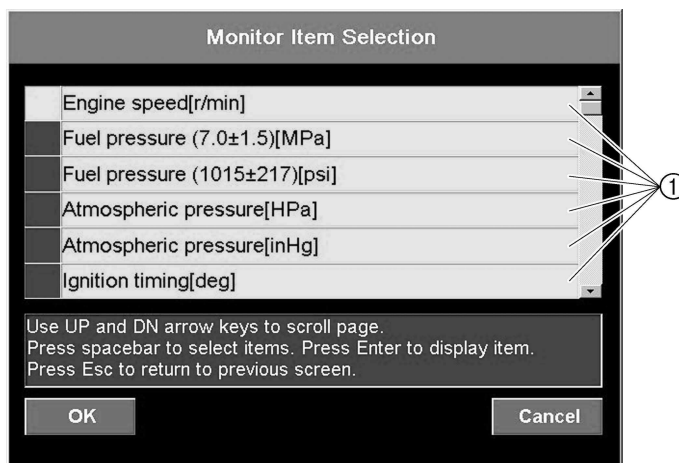

Fig. 51
3. Click the **OK** button or press the Enter key on your keyboard. The **Engine Monitor** window appears. To cancel the monitor, click the **Cancel** button or press the Esc key on your keyboard. (See fig. 51)